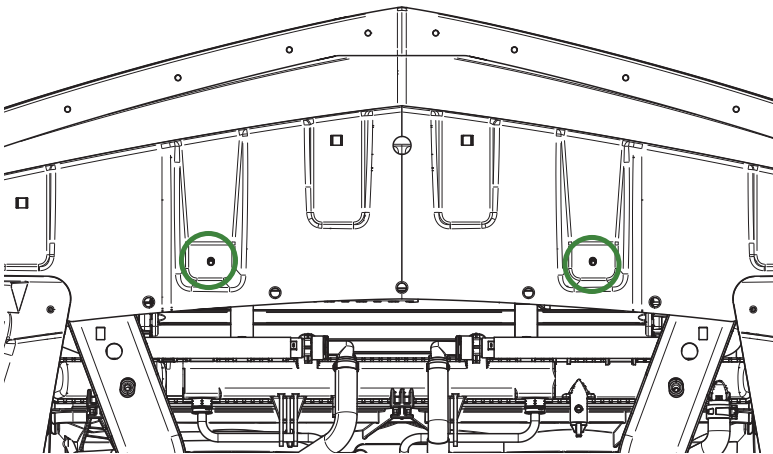

Figure 2 - Removing the Bottom Bumper Cover Screws
6. Under the car, use a 10 mm tool to remove two screws holding the bumper cover to the chassis, circled **green** in Figure 2.